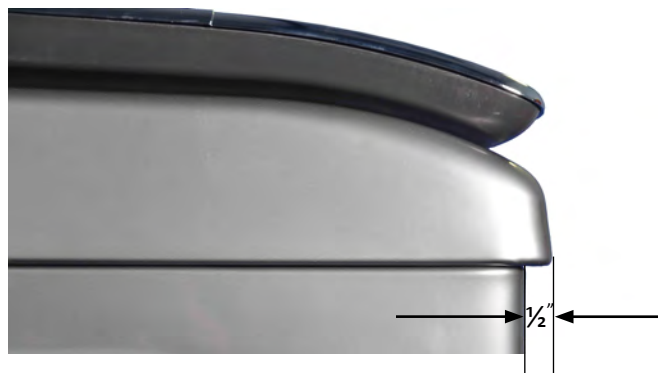

Figure 2
7. Slide top forward about 1/2" (see Figure 2).